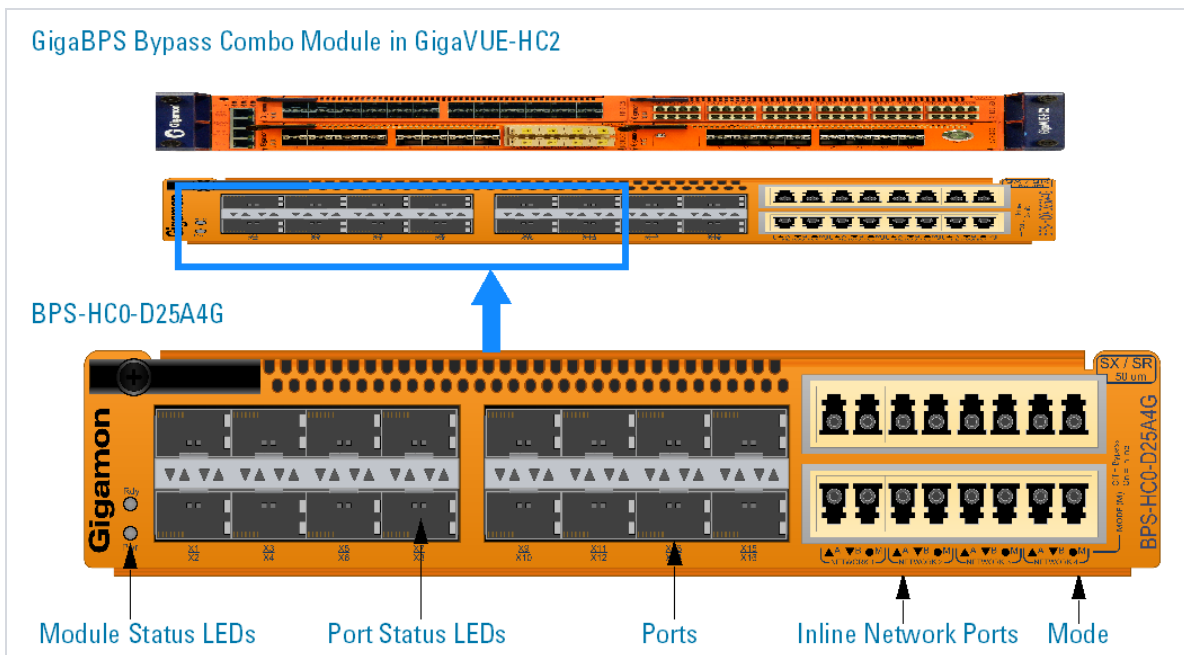

Figure 13: Bypass Combo Module BPS-HC0-D25A4G
- Bypass Combo Module with four SX/SR (50/125µm multimode) inline network port pairs and sixteen regular SFP+ port cages (BPS-HC0-D25A4G) (Figure 13: Bypass Combo Module BPS-HC0-D25A4G on page 22)